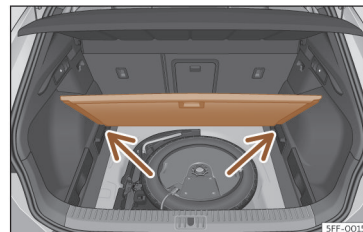

Fig. 116 Variable luggage compartment floor: inclined position.
- Rest the floor on its housings»» Fig. 116 (arrows).